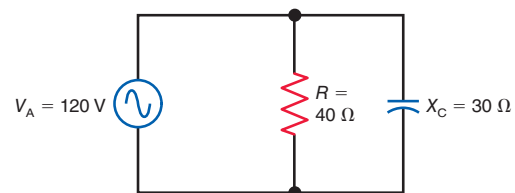

Figure 17-16
- 17.14 In Fig. 17-16, how much voltage is across
- 17.15** In Fig. 17-16, what is the phase relationship between
- 17.16** In Fig. 17-16, solve for I_R , I_C , I_T , Z_{EQ} , and θ_I .
- 17.17** Draw the phasor current triangle for the circuit in Fig. 17-16. (Use I_R as the reference phasor.)